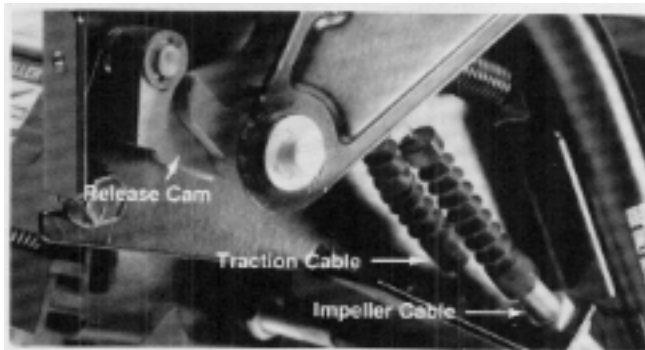

Figure 52
6. Find the traction cable and install it and the extension spring into the release cam as shown in Figure 52.
8. Fasten the impeller cable to the locking tang as shown in Figure 52.
10. Install the torsion spring and the lock latch onto the spindle and secure with the E-clip. See Figure 52 for proper spring orientation.